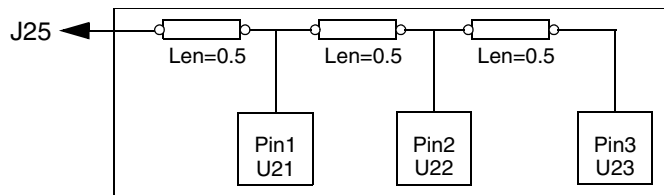

Figure 7 Circuit Connection for EBD Example
In Figure 7, `CompU22_ebd` and `CompU23_ebd` are added if `U22` and `U23` occur in [Reference Designator Map].
**Note:** If a component pin is not found and it is not a terminal node in the EBD path, then the name is used to designate the related node. For example, in Figure 7 on page 109, if `U22_2` (here, 2 is the pin name) does not exist, then the node name will be `ebd_U22_2`.
If the component pin is a terminal node in the EBD path and is not found, then the node and the associated section will not be added into circuit. For example, in Figure 7, if `U23_3` does not exist, then the section between `Pin2` and `Pin3` will be ignored and `U22_2` is the terminal node.
*Example 1* This example corresponds to the .ebd file that follows. See Figure 7 on page 109 for the circuit connection.